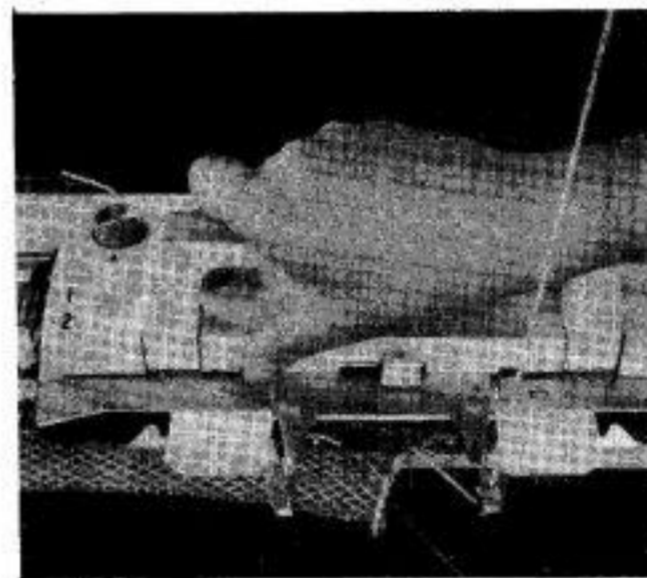

Fig. 49
Turn right hand Pattern Control Knob to "A". Push back 2 needles at the carriage end opposite Nos. 2 and 4 on the N. S. G. S. into Position (B). Form a loop in the end of the contrasting colour wool and hang it onto the hook of the needle in Position (B) nearest the end. \*Pull Main Feeder out of action, and hold the contrasting colour with your left hand and guide it into the leading Subsidiary Yarn Feeder (left hand). Push in the leading Needle Forwarding Lever move the carriage across the needles. (Fig. 49) This completes the 2nd row.